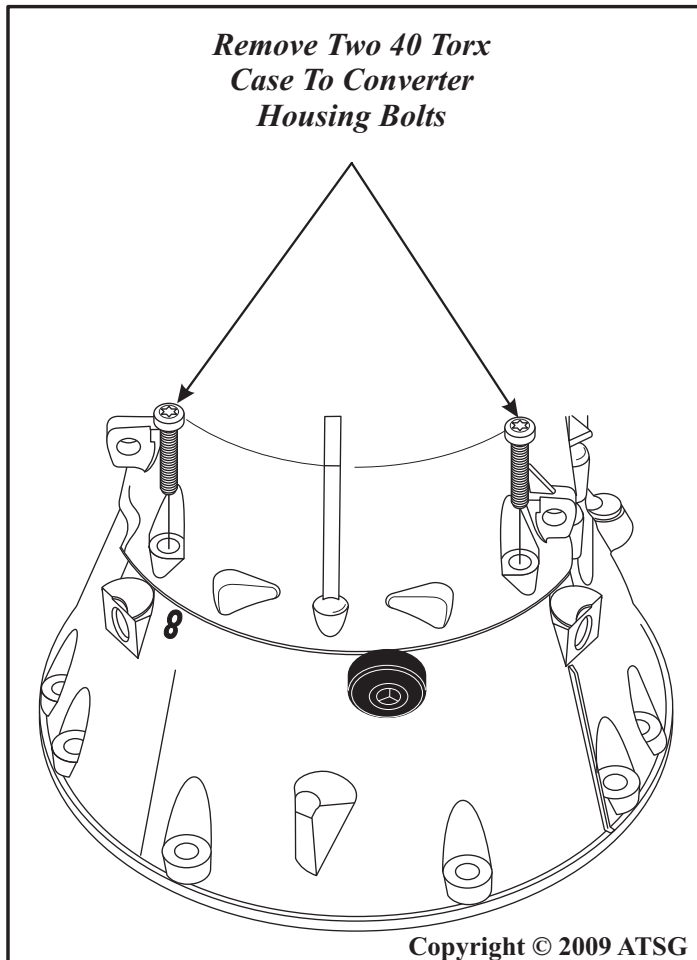

Figure 44
14. Remove the 2 converter housing to case bolts on the rear of case by converter housing, using a 40 Torx bit, as shown in Figure 44.